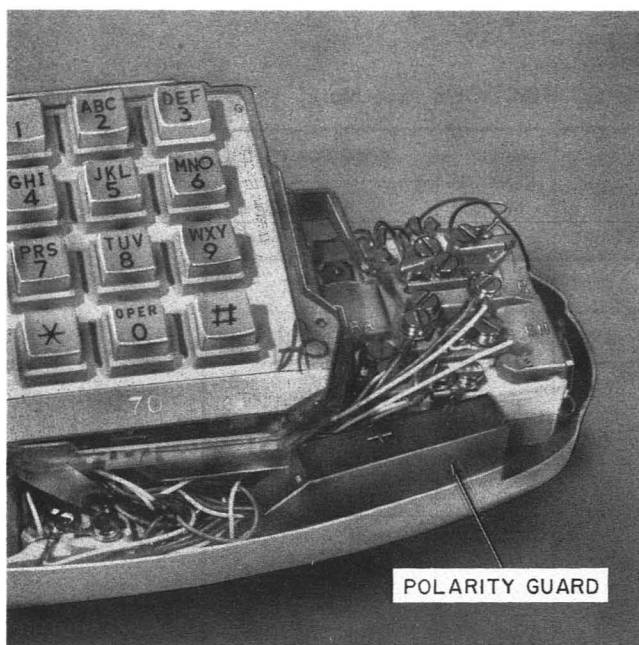

Fig. 10—Polarity Guard (840364202) Installed In 2700-Type Telephone Set
- (1) Remove housing; loosen dial mounting screws and move the dial to one side without disconnecting the dial leads.
- (2) Connect polarity guard in accordance with connections shown in Table D.
- (3) Position the polarity guard inside the set as shown in Fig. 10.
- (4) Reinstall dial on mounting bracket. Depress line switch to determine that polarity guard placement does not interfere with line switch operation.
- (5) Reinstall housing.